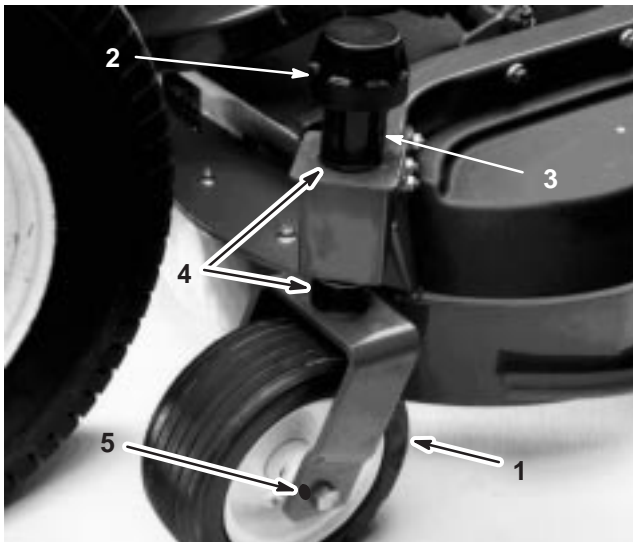

Figure 19
1. Remove the tensioning cap from the spindle shaft (Fig. 19).